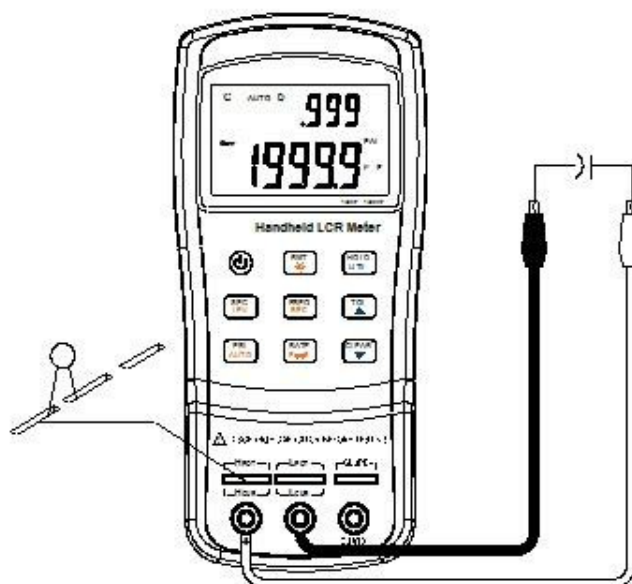

Figure 13- Inductance Measurement
3. Insert an inductor into test slots or connect a tested inductor through a proper test accessory (e.g., banana plug-crocodile clip test leads, test fixture or SMD test tweezers). See figures 13 below. Figure 5 shows the optional 4-terminal test accessories.